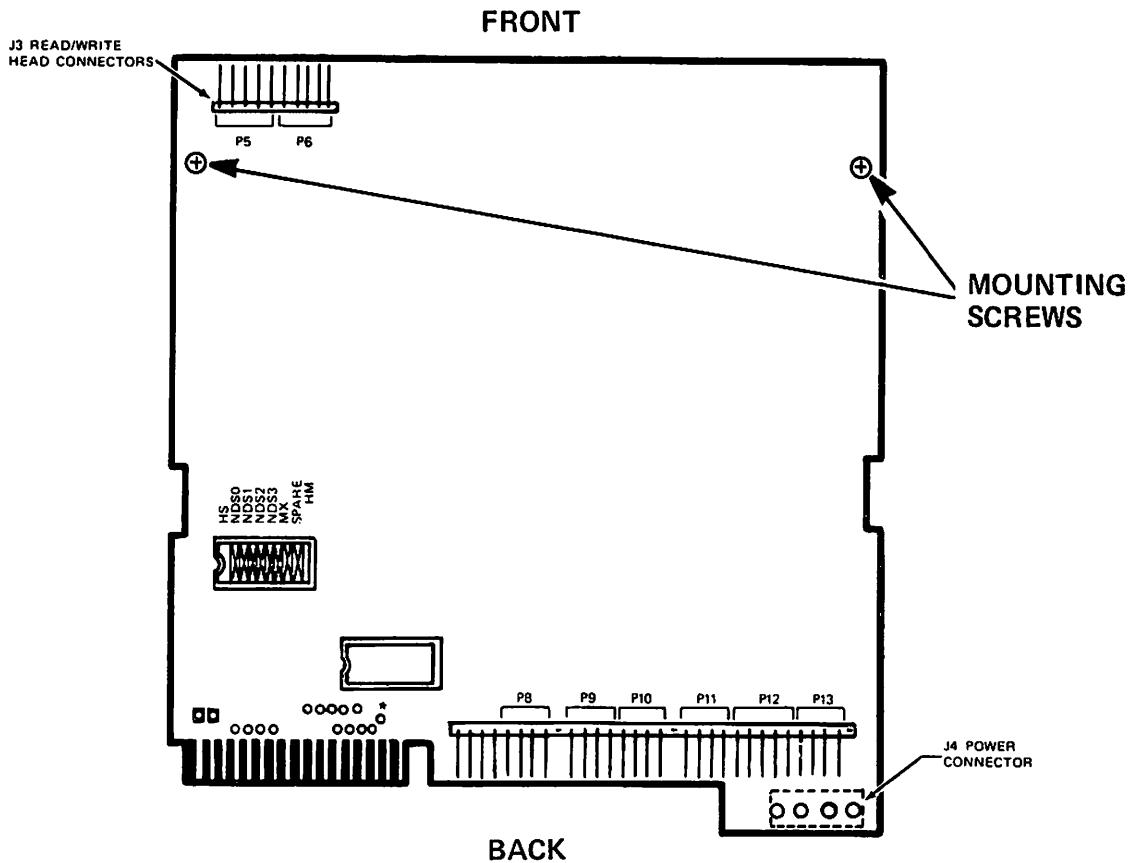

Figure 5-2
5.2.1 Unplug the eight (8) connectors on the Logic PCBA (see Figure 5-2).
- 5.2.2 With a Phillips screwdriver, remove the two (2) mounting screws that attach the Logic PCBA to the chassis (see Figure 5-2).
- 5.2.7 Plug in all connectors, ensuring that they are in their proper slots (see Figure 5-2).